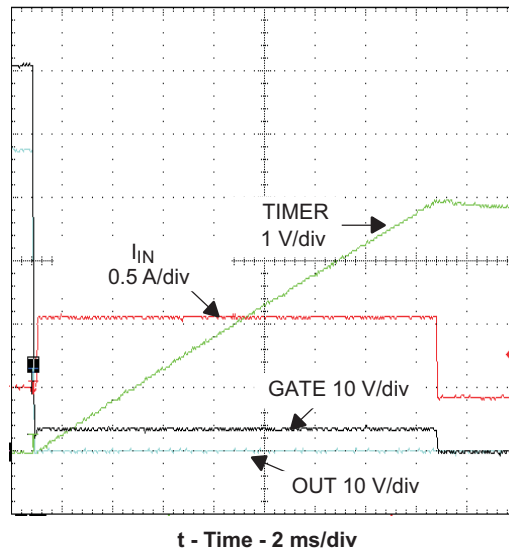
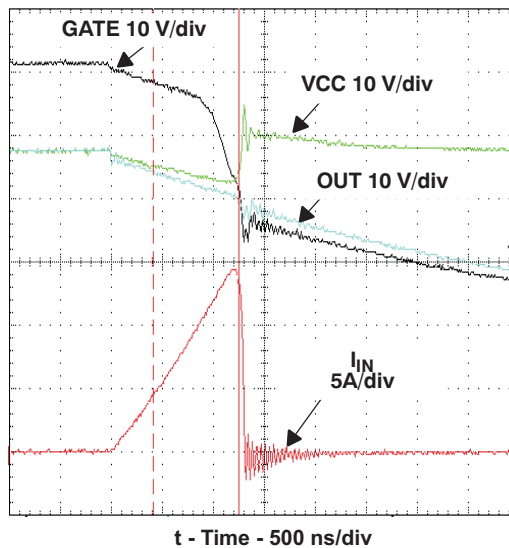

Figure 15. Current Limit Overview
Figure 16. Current Limit Onset
7.4.4 Response to a Hard Output Short (Figure 15 and Figure 16)
Figure 15 shows the short circuit response over the full time-out period. The period begins when the output voltage falls and ends when Q1 is turned off. Q1 current is actively controlled by the constant power engine and gate amplifier circuit while the TIMER pin charges  $C_T$  to the 4-V threshold causing Q1 to be turned off. The TPS2490 latches off after the threshold is reached until either the input voltage drops below the UVLO threshold or EN cycles through the false (low) state. The TPS2491 goes through a timing sequence before attempting a restart.
The TPS249x responds rapidly to the short circuit as seen in Figure 16. The falling OUT voltage is the result of Q1 and  $C_O$  currents through the short's impedance at this time scale. The internal GATE clamp causes the GATE voltage to follow the output voltage down and subsequently limits the negative  $V_{GS}$  to 1 V to 2 V. The rapidly rising fault current overdrives the GATE amplifier causing it to overshoot and rapidly turn Q1 off by sinking current to ground. Q1 slowly turns back on as the GATE amplifier recovers; Q1 then settles to an equilibrium operating point determined by the power limiting circuit.
Minimal input voltage overshoot appears in Figure 16 because a local 100- $\mu$ F bypass capacitor and very short input leads were used. The input voltage would overshoot as the input current abruptly drops in a typical application due to the stored energy in the input distribution's inductance. The exact waveforms seen in an application depend upon many factors including parasitics of the voltage distribution, circuit layout, and the short itself.